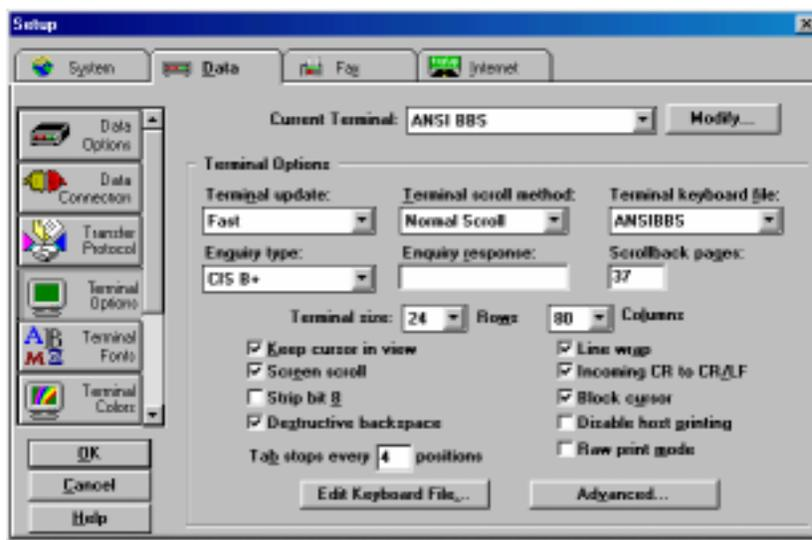

Figure 6-1. Serial Port/PROCOMM Setup Information
3. Select '**Incoming CR to CR/LF**' (see Figure 6-1. Serial Port/PROCOMM Setup Information).
4. Set '**Tab stops every 4 positions**' (see Figure 6-1. Serial Port/PROCOMM Setup Information).